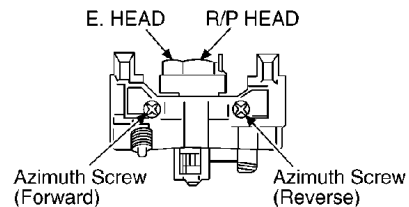

Fig.8
2. Playback the azimuth adjustment portion (8kHz, -20dB) of test tape (QZZCFM). Adjust the azimuth adjusting screw until the outputs of the L/R-ch are maximized. (Refer to Fig.8)